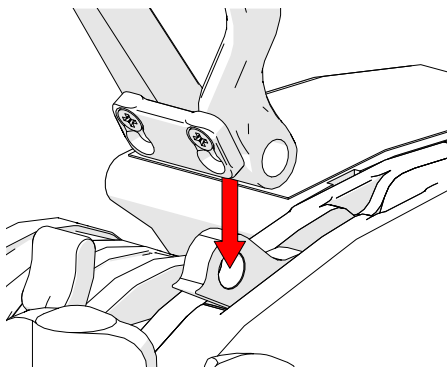

Fig. 78 - Align shackle with tether holes
3. Slide the shackle around the tether attachment point (Fig. 78).